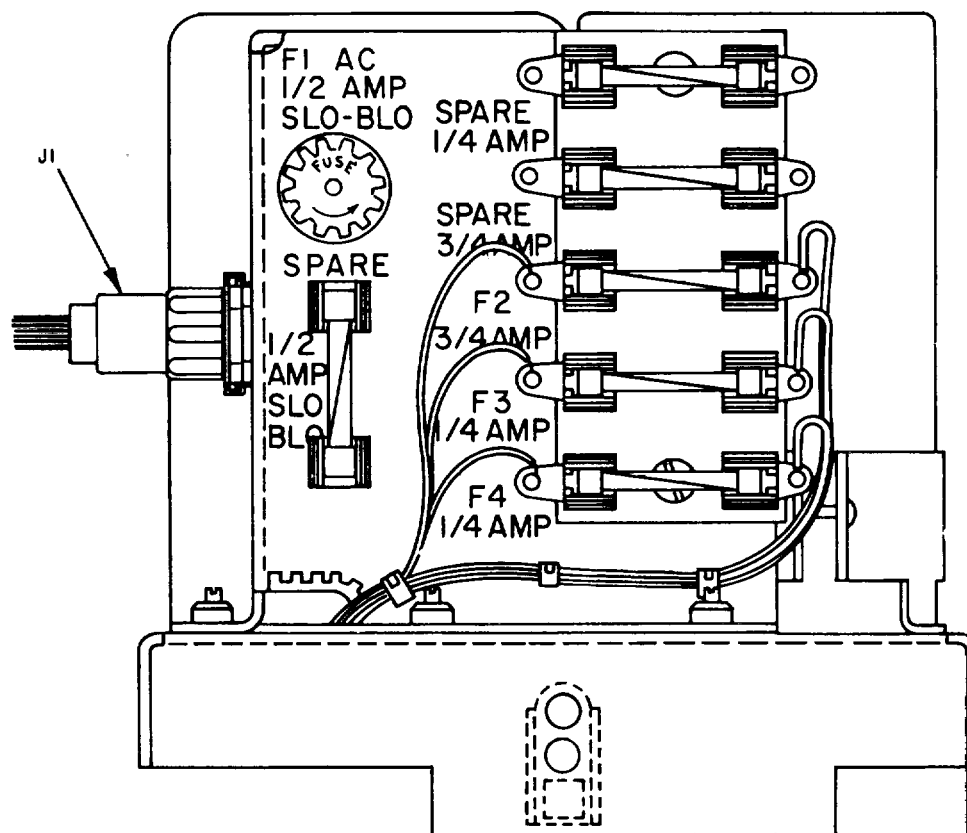

Figure 4-2. Location of fuses.
(figs. 4-2 and 4-3)
- (1) *Removal of fuse F1 (fig. 4-2).*
- (2) *Replacement of fuse F1.*
- (3) *Removal of fuses F2, F3, and F4* (fig. 4-2). Remove fuses F2, F3, and F4 by using the fuse puller supplied in Tool Kit, Electronic Equipment TK-105/G.
- (4) *Replacement of fuses F2, F3, and F4.* Replace fuses F2, F3, and F4, by placing the fuse in the fuse clip and gently pressing the fuse in place
- b. Replace the black logic module (para 4-15b (3) and (4)).